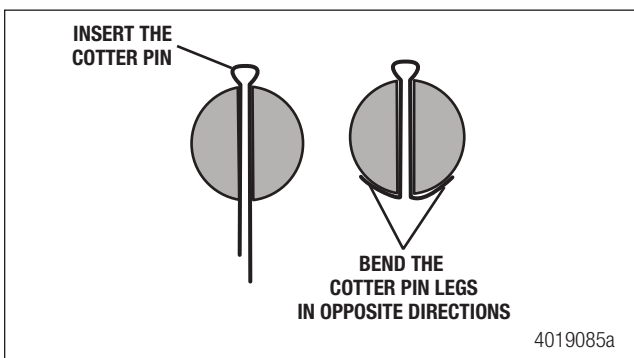

Figure 14.12
3. Install the cotter pin. Figure 14.12.